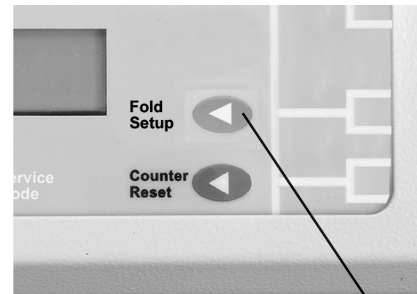

Fig. 14
4. Press the "Fold Setup" button to automatically set the fold plates (Fig. 14).